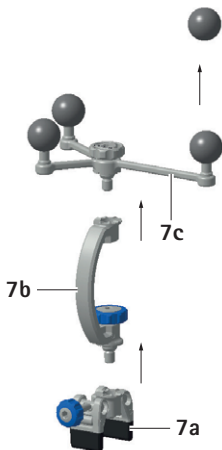

Fig. 17
- ▶ Disassemble the universal navigation clamp 7 (SZ096R) (consisting of Brainlab components 7a (55113), 7b (55016) and 7c (41799)) according to the Brainlab instrument user guide, see Fig. 17.